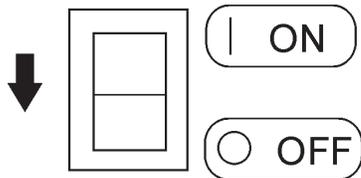
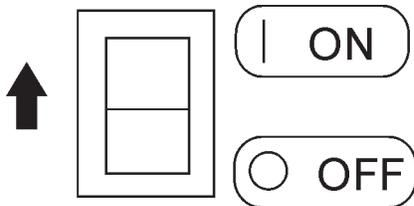

Figure 16. Idle Control Switch (Off)
Figure 17. Idle Control Switch (On)
- Place** the *idle control switch* (Figure 16) in the **"OFF"** (down) position. This will allow the engine speed to run at speed about 3600 RPM's
Placing the *idle control switch* in the **OFF** position (Figure 16) allows the engine to operate at a maximum speed of about 3600 RPM's. When the idle control switch is placed in the up position (**ON**) (Figure 17), the generators will run at idle speed (2200 RPM's) until a load is applied, at that time the engine speed will increase to 3600 RPM's as long as the load is being applied. When the load is not in use, the engine speed will drop back to the idle mode after about 3 seconds.